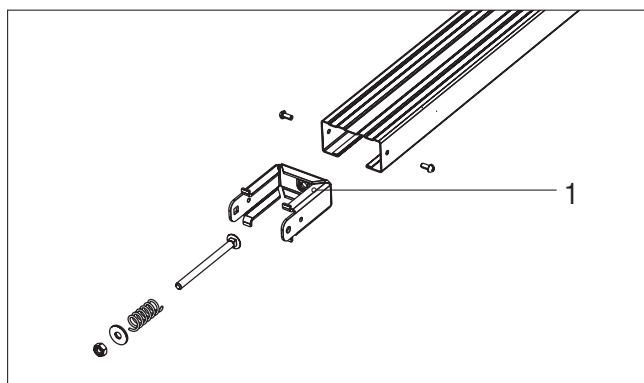

Figure 1
2. Disassemble a chain tensioner mechanism, pos. 1 (Fig. 1).